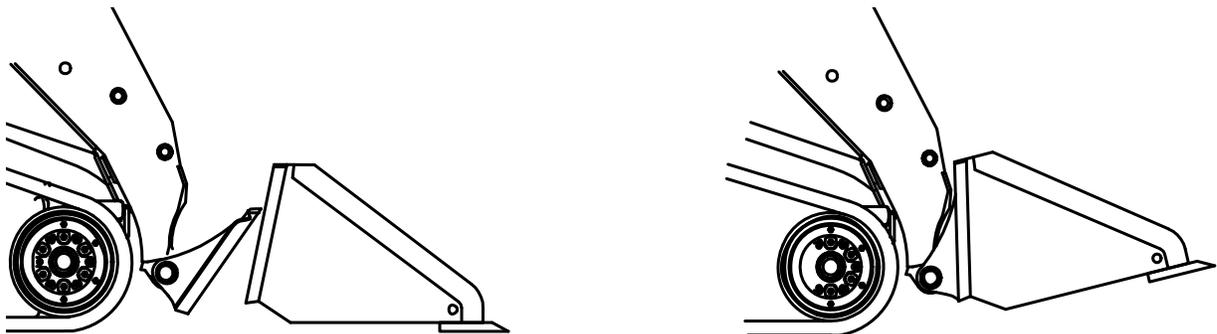

Figure 3.2a Quick Attach Mechanism Locked to Attachment
2. Drive the skid steer to the attachment plate and hook the top edge of the skid steer quick attach mechanism under the lip of the brush cutter's attachment plate (see figure 3.2a below).
3. Slowly tilt the skid steer quick attach mechanism upward until the brush cutter attachment plate is flat against the skid steer quick attach mechanism (see figure 3.2a below).